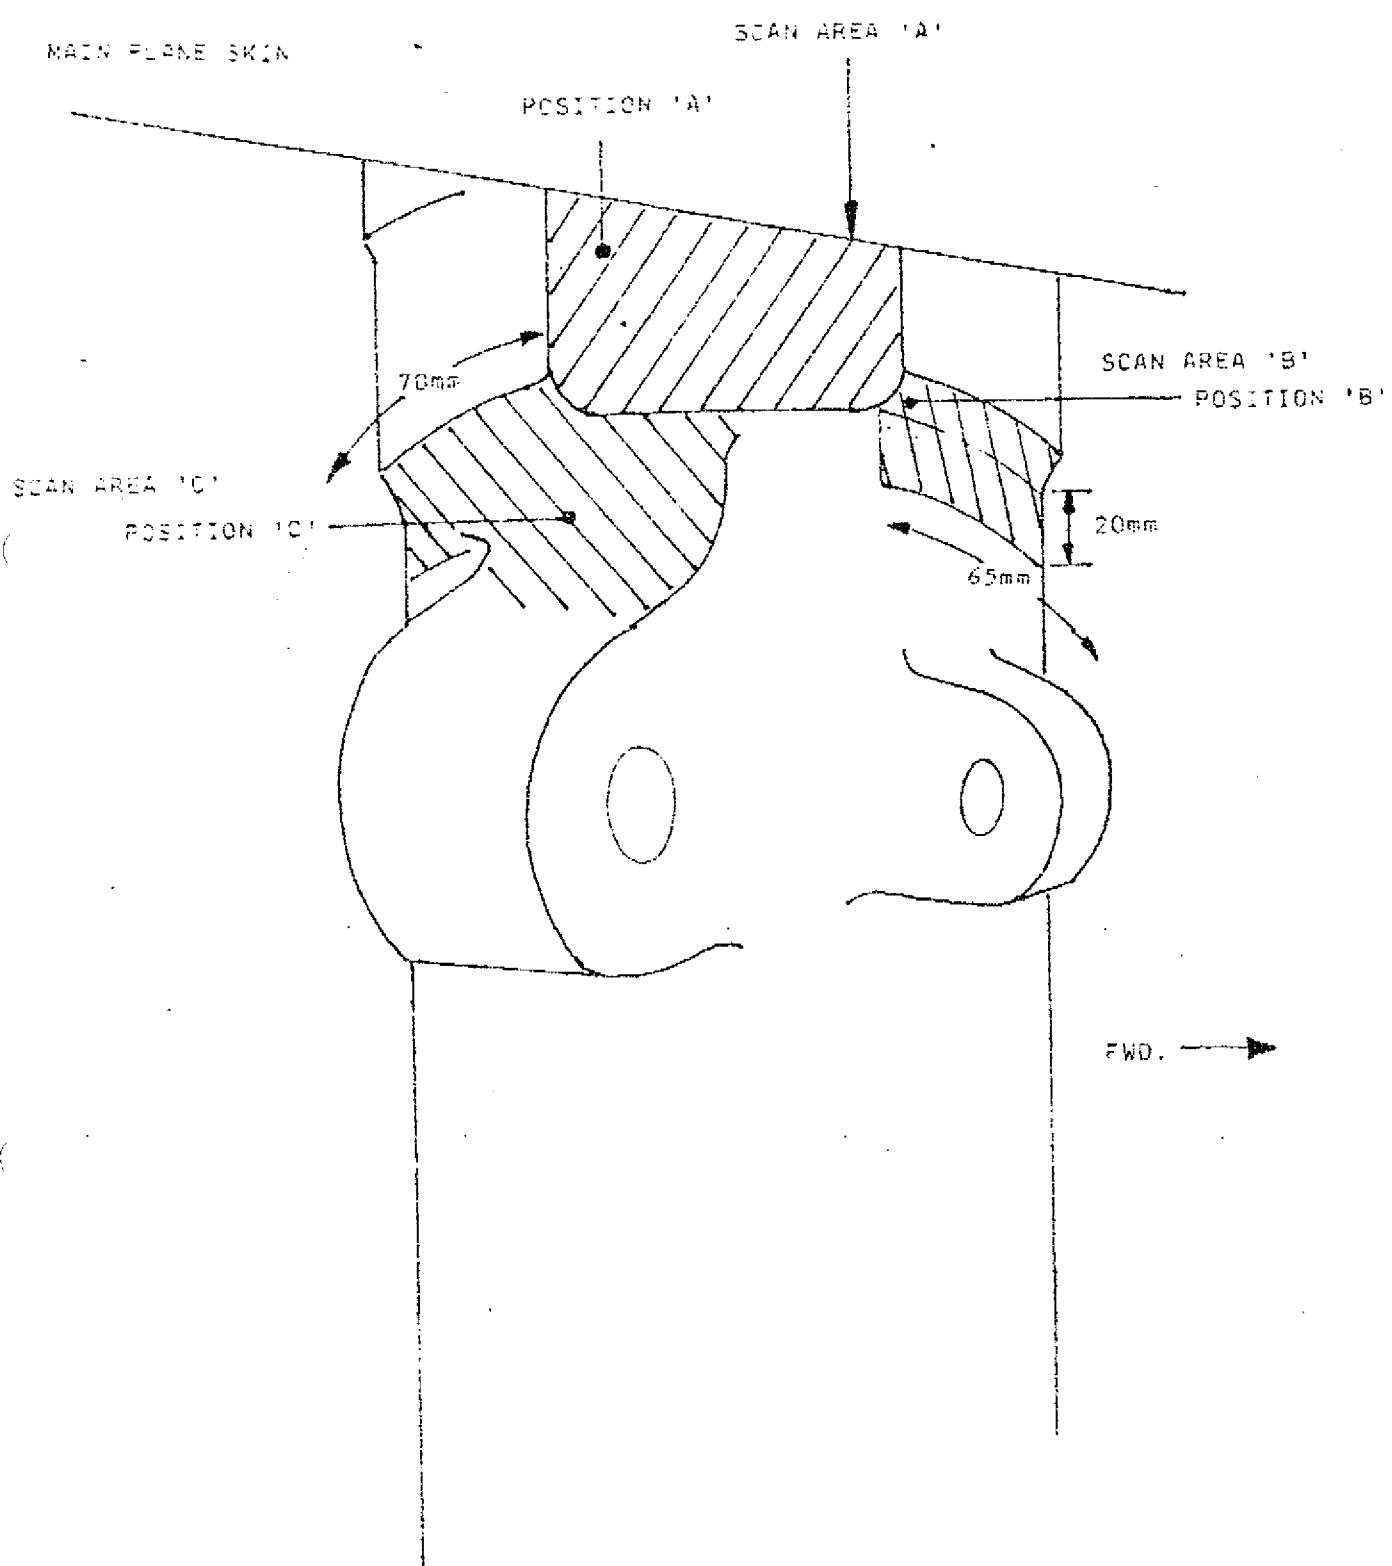

FIGURE 1.
3. Area of Examination The radius and adjacent area below the larger retraction jack attachment lug (Fig. 1).